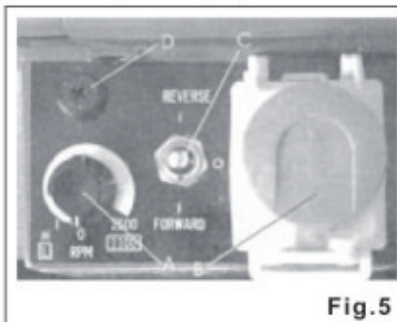

Fig.5
A. DURING INSTALLATION-INITIAL START (ref. Fig.5)
B. STARTING UNDER NORMAL CONDITIONS (ref. Fig.5)
3. Set the Forward/Off/Reverse (F/O/R) switch (C) on the main control panel, to the FORWARD position.